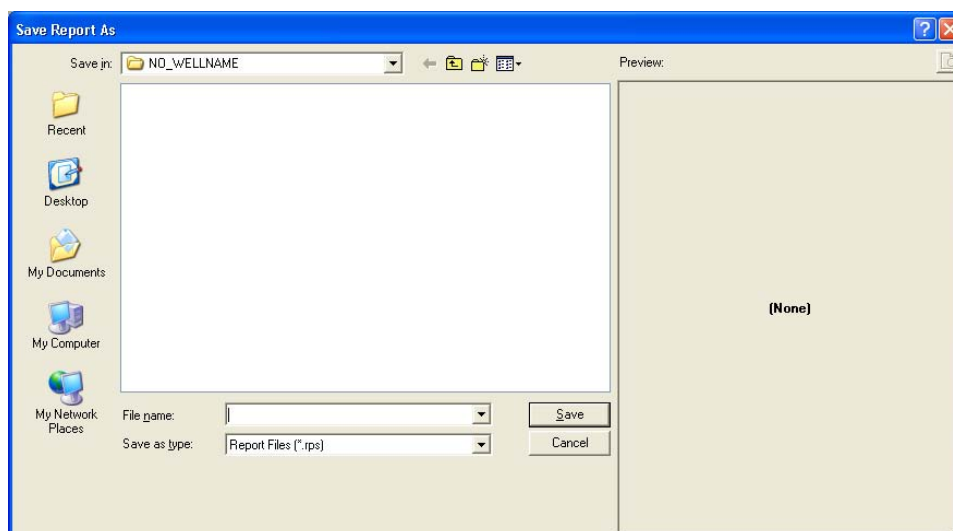

Figure 5.9—Save Report As screen
1. Select File>Save from the task bar (Figure 5.8). A “Save Report As” window will open (Figure 5.9).